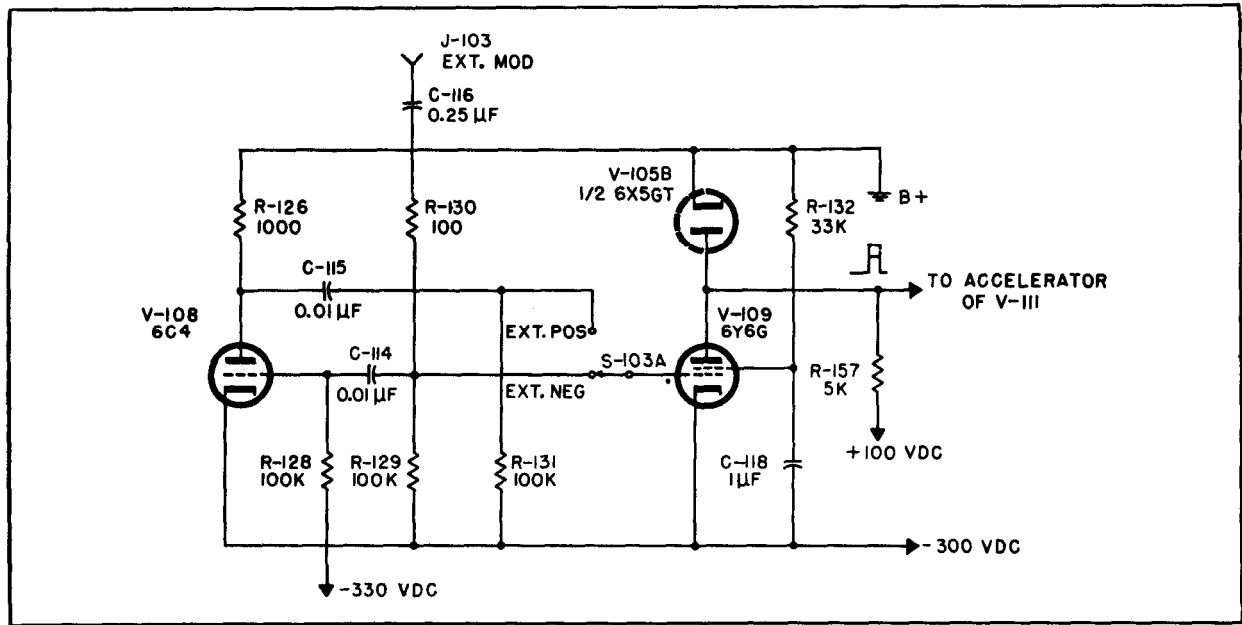

Figure 3-16. External Modulation Circuit
f. EXTERNAL MODULATION.-If the oscillator is to be modulated with an external square wave or pulse, the pulse is applied to Jack J-103, the EXT MOD jack (figure 3-16). Positive pulses are applied through S-103A to the grid of V-108 which is normally below cut-off. The positive pulse on the grid results in a negative pulse in the plate of V-108 and this negative pulse is applied to the grid of V-109. A positive pulse is then obtained in the plate of V-109 and is applied to the accelerator grid of the reflex klystron V-111, permitting rf oscillation for the duration of the pulse.